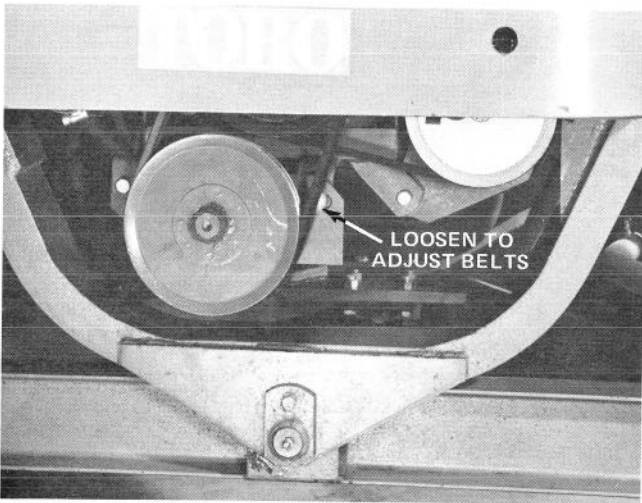

Figure 29
8. If either belt needs adjustment, loosen the pump mounting bracket bolts. Use a pry bar on the side of the pump closest to the slotted hole in the pump bracket. Pry the pump downward to achieve proper belt tension and tighten the mounting bolts. (See Figure 29).